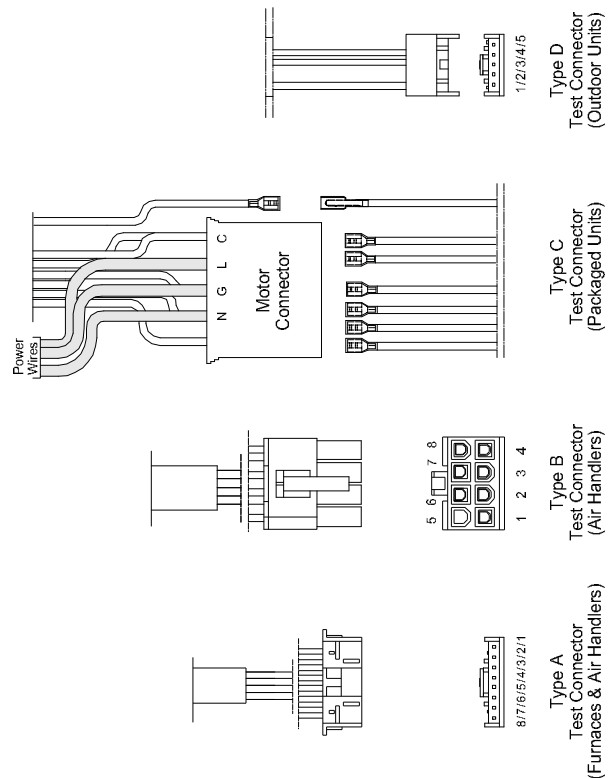

Figure 1. Digimotor Test Connectors
2. The Digimotor Test Tool is equipped with 4 different test connections (see Figure 1). Select the connection that matches the motor to be tested and connect it to the TEST CONNECTOR port on the Digimotor Tool.
NOTE: For Type C connector, leave the power wires in place and remove the 24V control wires from the motor plug. Connect the tester to the motor plug by matching the wire colors. Connect the red wire with the male terminal to the female wire bundled with the motor wires. See Figure 1.